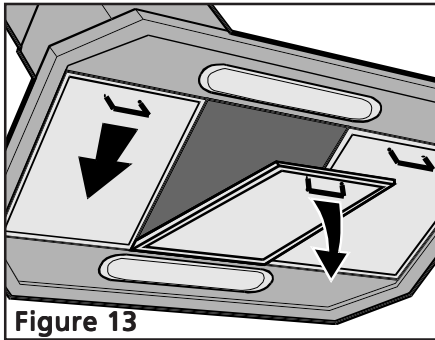

Figure 13
- Push each handle towards the center and pull downwards Figure 13.